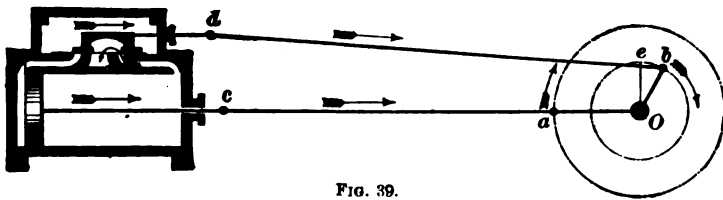
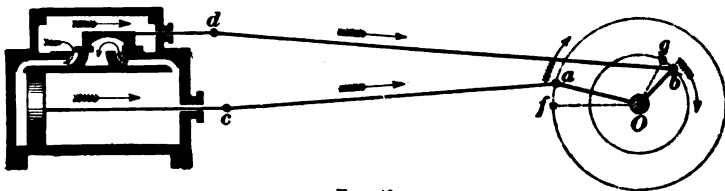
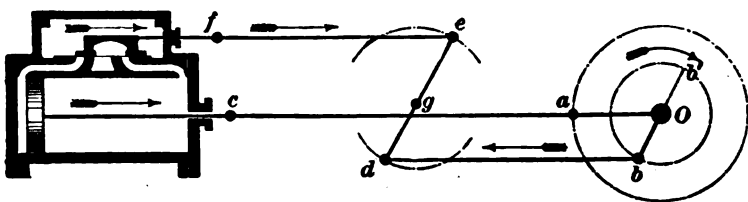

FIG. 39.
FIG. 40.
FIG. 47.
**44. Admission, Front End.**—The diagram shown in Fig. 39 represents the engine on the dead center, and just
**45. Steam Port Wide Open to Exhaust.**—If the engine is moved off the dead center, steam will enter the front end of the cylinder and start the engine moving, as indicated by the arrows. Fig. 40 shows the position of the piston and slide valve when the engine has moved around sufficiently to cause
the slide valve to open the steam port full to the exhaust. To thus open the port wide, the crankpin  $a$  has had to move through the distance  $fa$ , and the eccentric center  $b$  through the distance  $gb$ . In this position of the valve, steam is still entering the front end of the cylinder and forcing the piston along, while the exhaust steam in the back end of the cylinder is exhausting to the atmosphere, as indicated by the arrow. The piston and slide valve are still moving in the same direction. Fig. 39 shows that the steam port is nearly wide open to the exhaust at the beginning of the stroke, while Fig. 40 shows that
eccentric through the distance  $gb$ ,  $Of$  and  $Og$  being their positions when the back steam port was wide open to the exhaust, Fig. 40. The piston is still moving in the same direction, but the slide valve has reached the end of its stroke and is just on the point of having its motion reversed by the eccentric. Also, it will be noticed that the back end of the cylinder is still wide open to the exhaust.
thus force the piston towards the front end. The front port is nearly wide open to the exhaust, so that the steam in that end of the cylinder is still passing out to the atmosphere. The crank and eccentric have moved through the distances  $fa$  and  $gb$ , which brings them diametrically opposite the positions they occupied in Fig. 39.
**54. Lead Defined.**—Thus far in treating of the slide-valve engine, the movement of the slide valve relative to the piston has always been such that, with the engine on a dead center and the piston about to reverse its motion, the valve is on the point of opening the steam port to admission, as in Fig. 39. On some locomotives, however, the valve so moves relatively
to the piston that the steam port is open a small amount by the time the piston is at the end of its stroke; that is, instead of the valve being just at the edge of the port, as shown in Fig. 39, it has moved from  $\frac{1}{32}$  to  $\frac{1}{16}$  inch farther from its mid-position, thus opening the steam port that amount. (These amounts are for full gear; the lead increases as the engine is hooked up.)
**55. Effects of Lap and Lead on the Position of the Eccentrics.**—By referring to the diagrams in Fig. 6, Part 1, it will be seen that when the slide valve has neither lap nor lead, the eccentric will make an angle of  $90^\circ$  with the crank. From Fig. 39, it will be seen that if the valve has lap, the angle that the eccentric makes with the crank will be greater than  $90^\circ$ , while if the valve has both lap and lead, the angle must be made
still greater. By referring to Fig. 39, it will be seen (by following the direction of the arrows) that the crankpin  $a$  is following the eccentric pin  $b$ ; hence, when (as in Fig. 39) a rocker is not used, the eccentric must be set  $90^\circ$  plus the angle of advance ahead of the crank, in order to give the slide valve the proper relative motion. When a rocker similar to that in Fig. 47 is used, the valve rod  $fe$  and eccentric rod  $db$  move in opposite directions. Consequently, to give the valve the proper motion, the eccentric, instead of being placed  $90^\circ$  plus the angle of advance ahead of the crank (at  $Ob'$ , Fig. 47), must be placed  $90^\circ$  minus the angle of advance behind the crank, namely at  $Ob$ , Fig. 47. In other words, the eccentric must be moved around on the axle until it is in a position diametrically opposite the position it would occupy were the rocker not used. As the rotation of
the driving wheels of a locomotive when running forwards is the opposite of that indicated by the arrow in Fig. 47, the go-ahead eccentric, in being placed  $90^\circ$  minus the angle of advance
hence, the eccentric for an indirect valve must be set on the axle directly opposite the position it would have were it operating a direct valve. In other words, when a rocker similar to that shown in Fig. 47 is used in connection with an indirect valve, the eccentric should be set ahead of the crank at an angle equal to  $90^\circ$  plus the angle of advance.